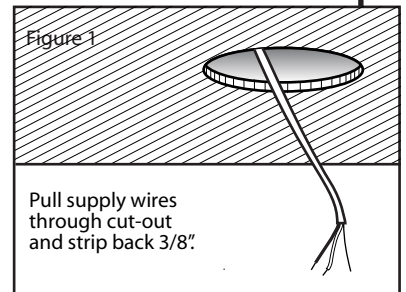

Figure 1
4. Locate supply power in ceiling plenum. Pull supply wires through cut-out and strip back conductors 3/8". See Figure 1.